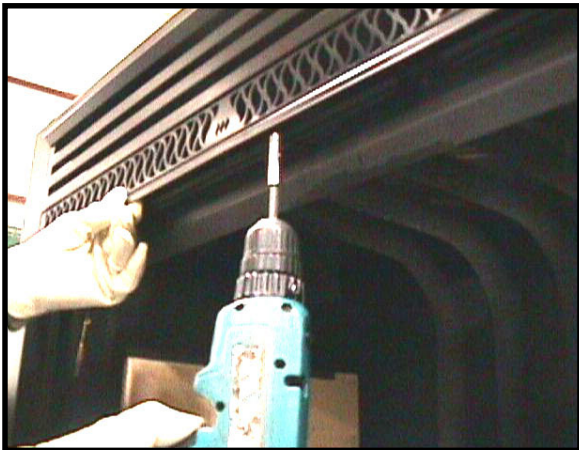

Figure 1
- Add the spring clips onto each end as you finish screwing on the top door track. See Figures 1 and 2.